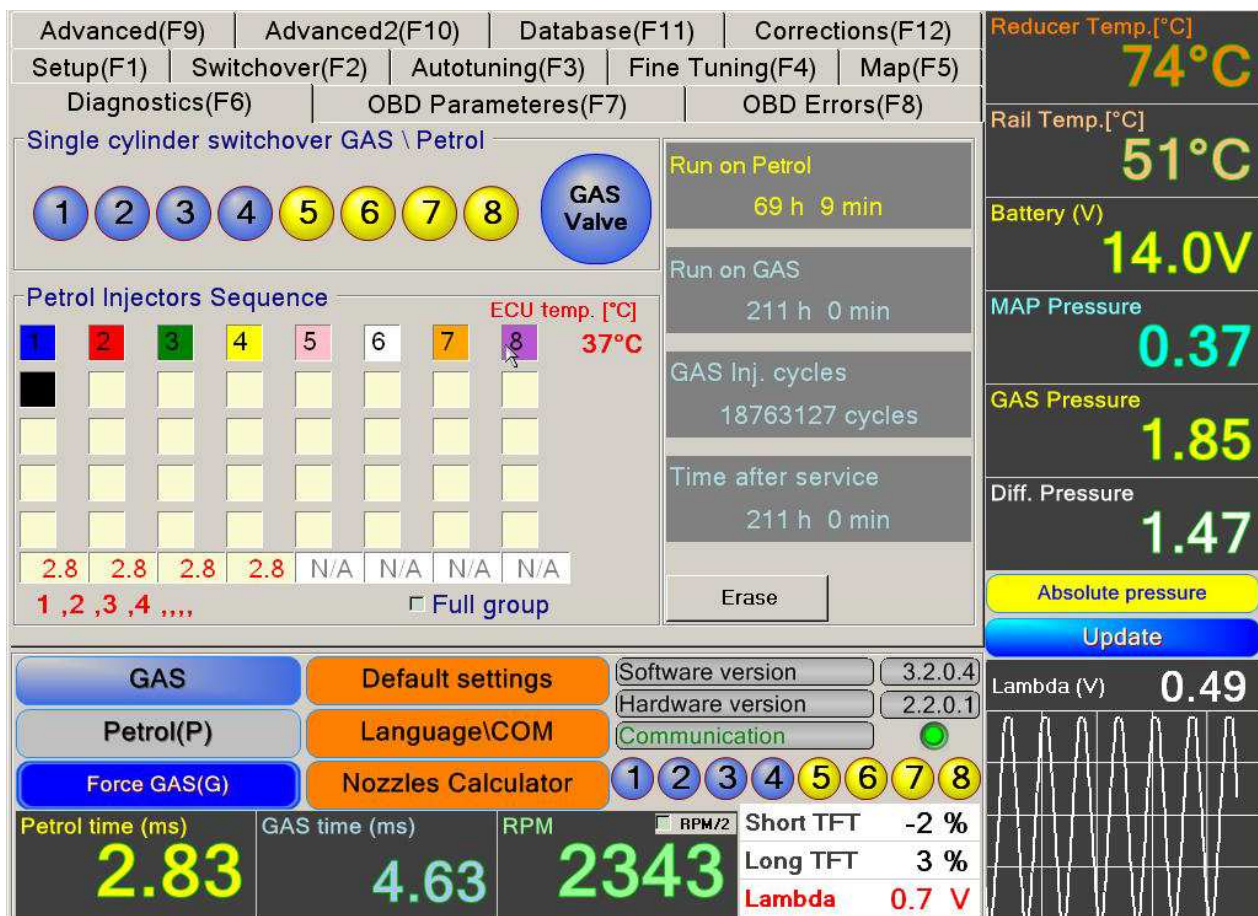

FIG.8
13. Menu “DIAGNOSTICS” (F6) – FIG.8